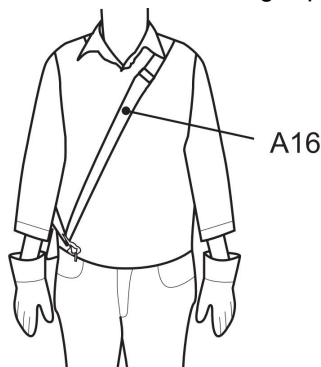

Fig. 33
2. Place the harness (A16) so that it runs over the left shoulder, crossing the chest and back. The securing clip (A18) must be located at the right hip (Fig. 33).